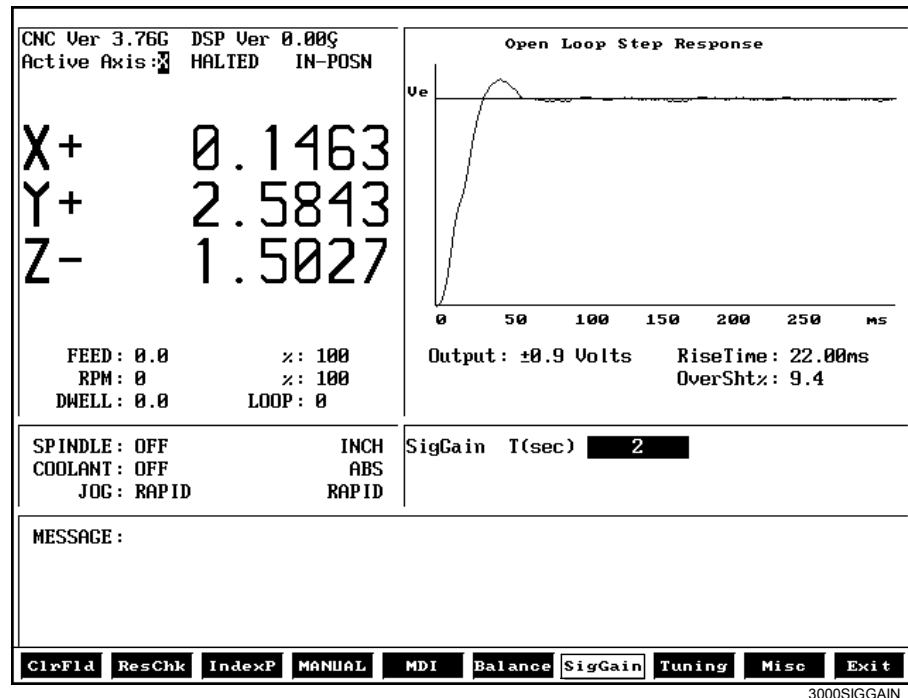

Figure 16, Signal Gain Test Screen, AC Systems
2. Select **2** for the time (i.e., 2 seconds). Refer to **Figure 16**. The following screen will be displayed: